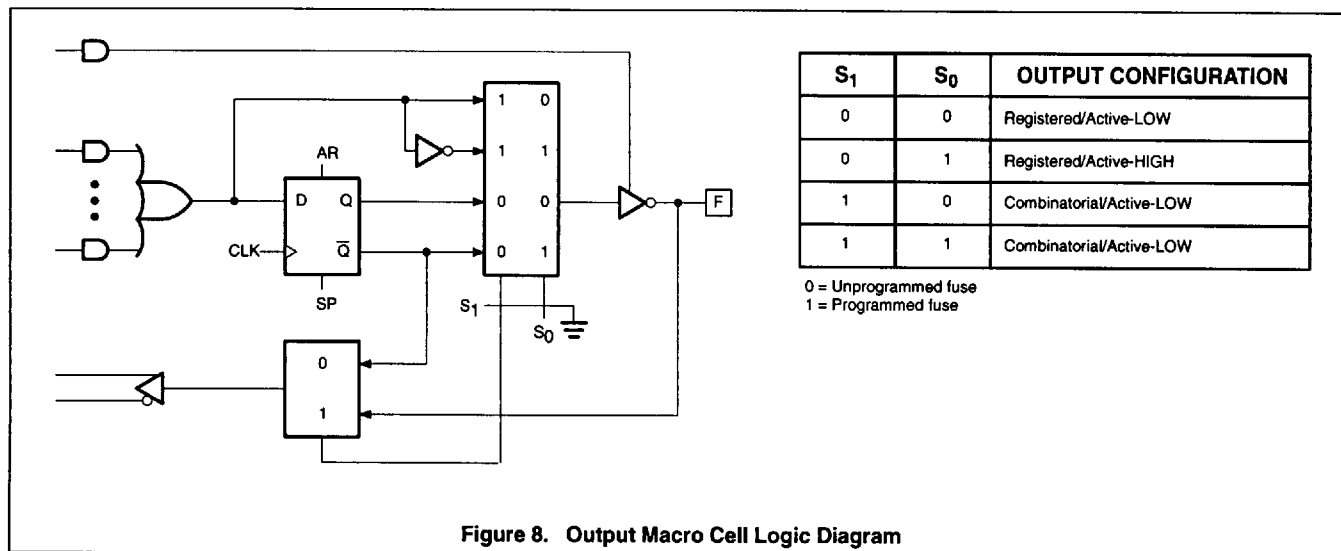

Figure 8. Output Macro Cell Logic Diagram
allows one of four potential output configurations, registered output or combinatorial I/O, Active-HIGH or Active-LOW (see Figure 8). The configuration choice is made according to the user's design specification and corresponding programming of the configuration bits $S_0 - S_1$. Multiplexer controls are connected to ground (0) through a programmable fuse link, selecting the "0" path through the multiplexer. Programming the fuse disconnects the control line from GND and it floats to V_{CC} (1), selecting the "1" path.